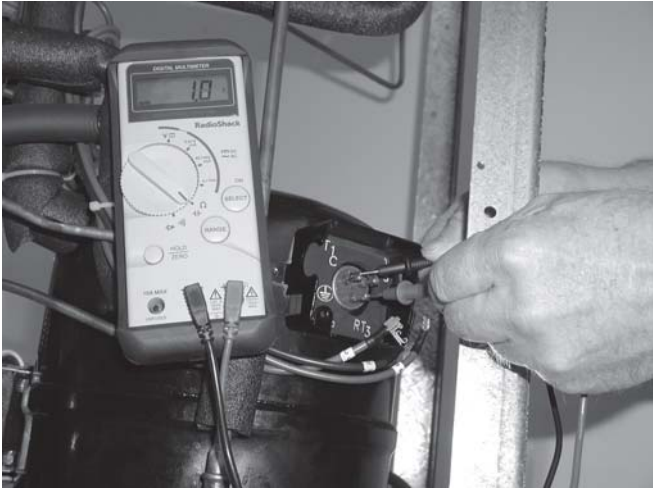

Figure 13. Ohm Meter Connection
3. Connect ohmmeter to terminal C and R. Resistance through the run winding should be 1.10 ohms with the ohmmeter set at times one. (Fig. 13)